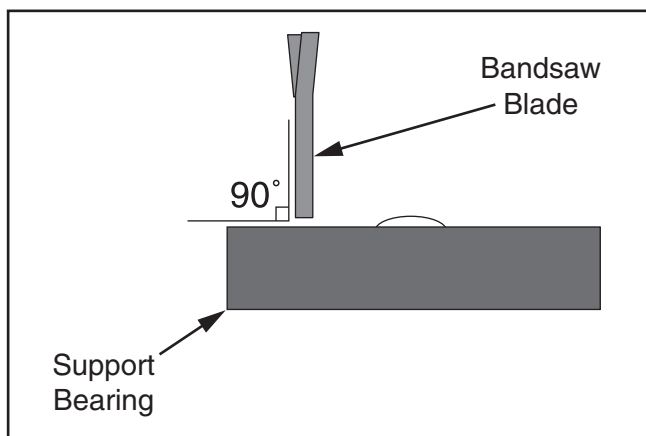

Figure 29. The face of the support bearing must be perpendicular (90°) to the blade.
4. Rotate the blade guide assembly until the face of the support bearing is perpendicular to the blade, as illustrated in the **Figure 29**.